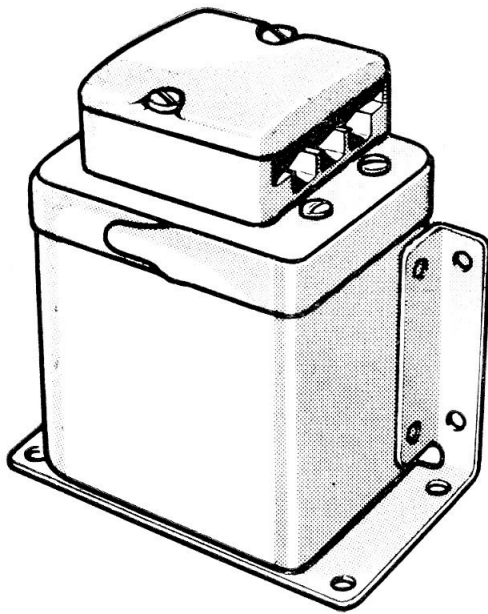
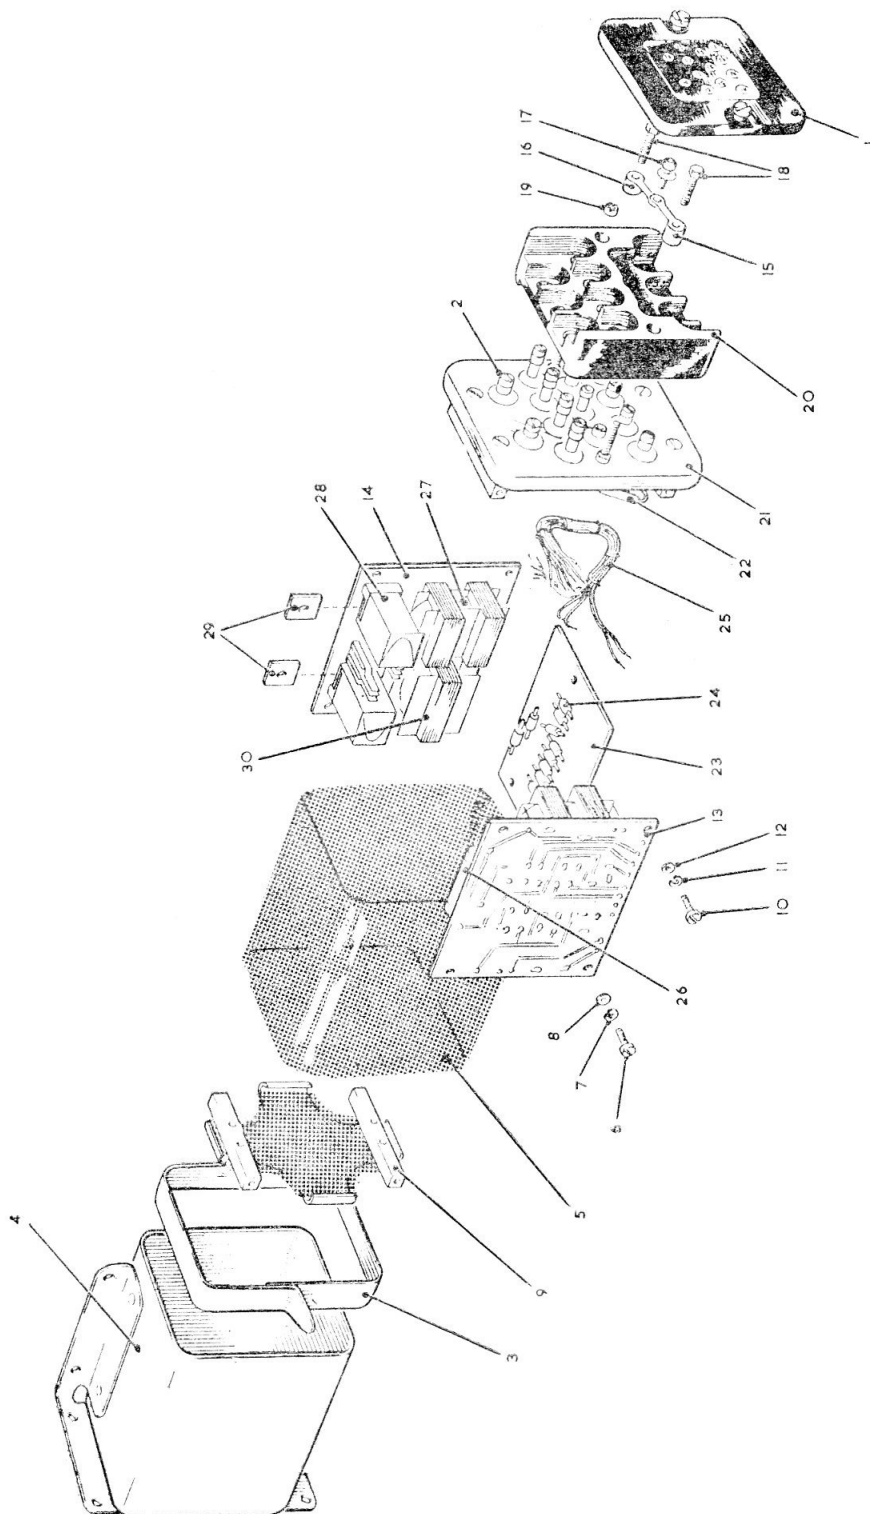

Fig. 1. External view of de-icing controller,
Fig. 3. Exploded view of de-icing controller, Type 4, Mk. 1
KEY TO FIG. 3
3. The controller is shown in Fig. 1. The controller components are mounted on three printed circuit boards A, B and C and wired internally by flexible leads. An exploded view of the controller is shown in Fig. 3. When assembled, all the controller components are accommodated in a container which is then sealed. The printed circuit boards form three sides of a cube and fold out flat for servicing purposes. Inside the container the circuit boards are protected by